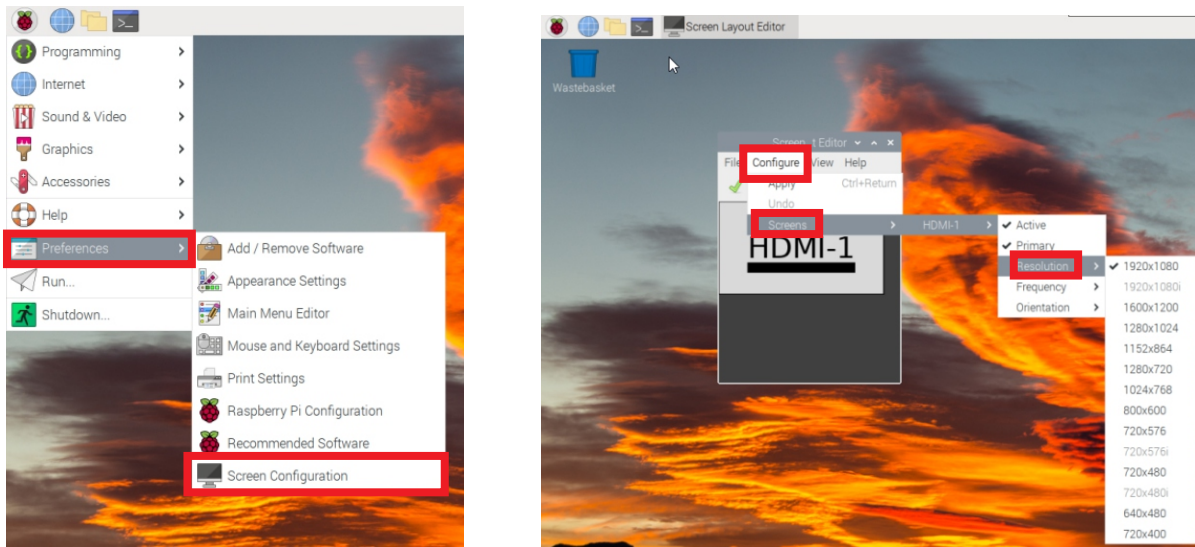

Figure 7: Display Resolution Setup
1. According to Figure 7 follow **Applications Menu > Preference > Screen Configuration**. Then Screen Layout Editor window will appear. Then follow **Configure > Screens > HDMI > Resolution** and then select appropriate resolution.